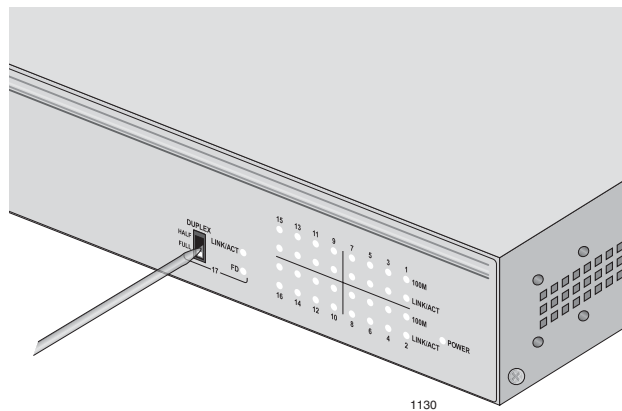

Figure 16. Changing Fiber Optic Port Duplex Mode Switch Manually
2. Use the tip of a pen to manually change the duplex mode switch to half- or full-duplex mode, as shown in Figure 16.